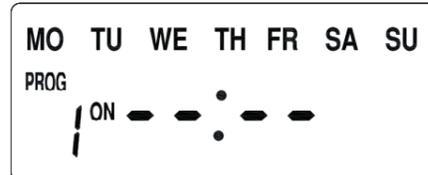

Fig. 1
1. Press the **MODE** key until **PROG 1 ON** displays and flashes. The program 1 ON mode is shown in Fig. 1 without any setting.